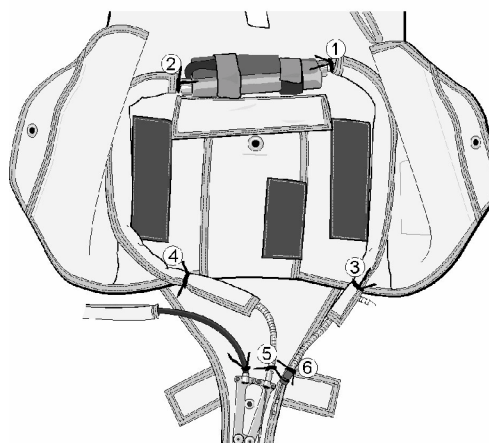

Figure 5. Lacing Tape Ties
c. Ensure AAD Aneroid and Arming indicators are visible through view ports in back of container. (QA)
e. Secure AAD cable housings in their respective channels with a series of 6 lacing tape ties in the following sequence (Figure 5).
All lacing tape ties are to be one turn, single, surgeons knot followed by a square knot, unless directed otherwise. Placement of the tackings are shown in Figure 5.